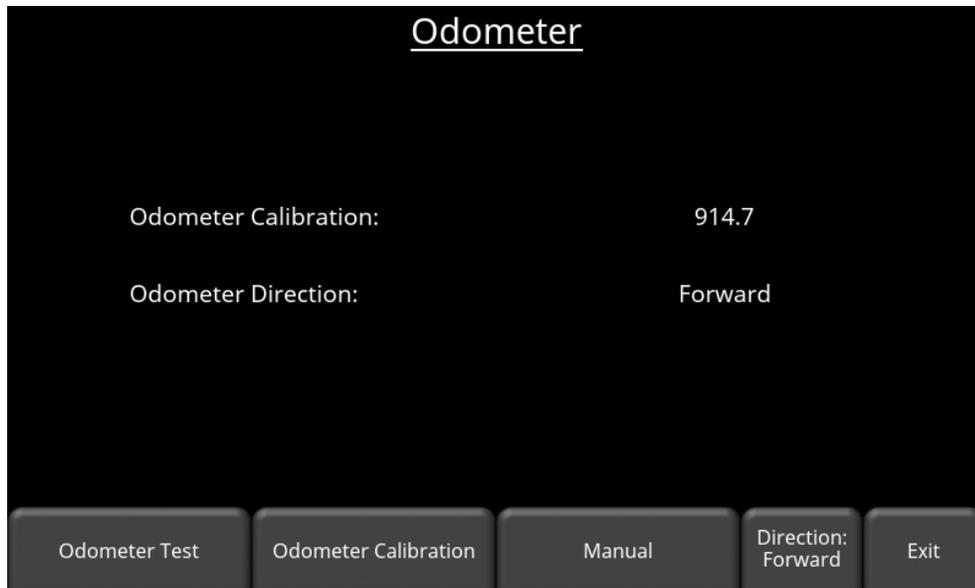

Figure 6-17: Edit Odometer screen
- **Odometer** – If you have a setup containing a wheel, then you will likely use this option. As the odometer wheel moves one step size, it will cause the transmitter to fire. This is the easiest mode to operate in, as you don't have to worry about collecting data at equally spaced intervals. Pressing the **Edit Odometer** button takes you to the screen in Figure 6-17, where you can setup and calibrate the odometer if you haven't already. Essentially this is the same as the odometer test screen \(5.2.2\).